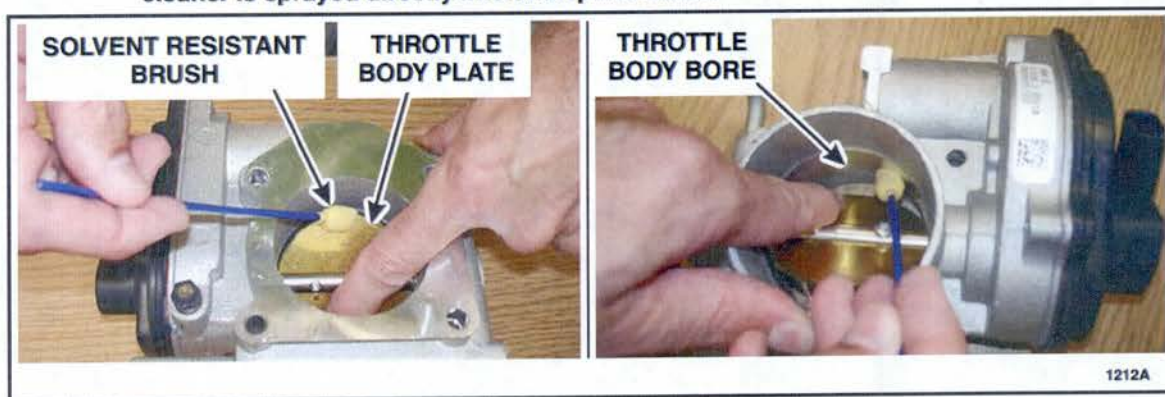

FIGURE 1
2. Using Motorcraft® Choke and Linkage Cleaner or equivalent, spray the throttle body plate and bore. Using a small, soft, solvent resistant brush, clean the edges of the throttle plate and the mating surface of the throttle bore to remove all engine deposit build up. Reapply choke and linkage cleaner. See Figure 1.